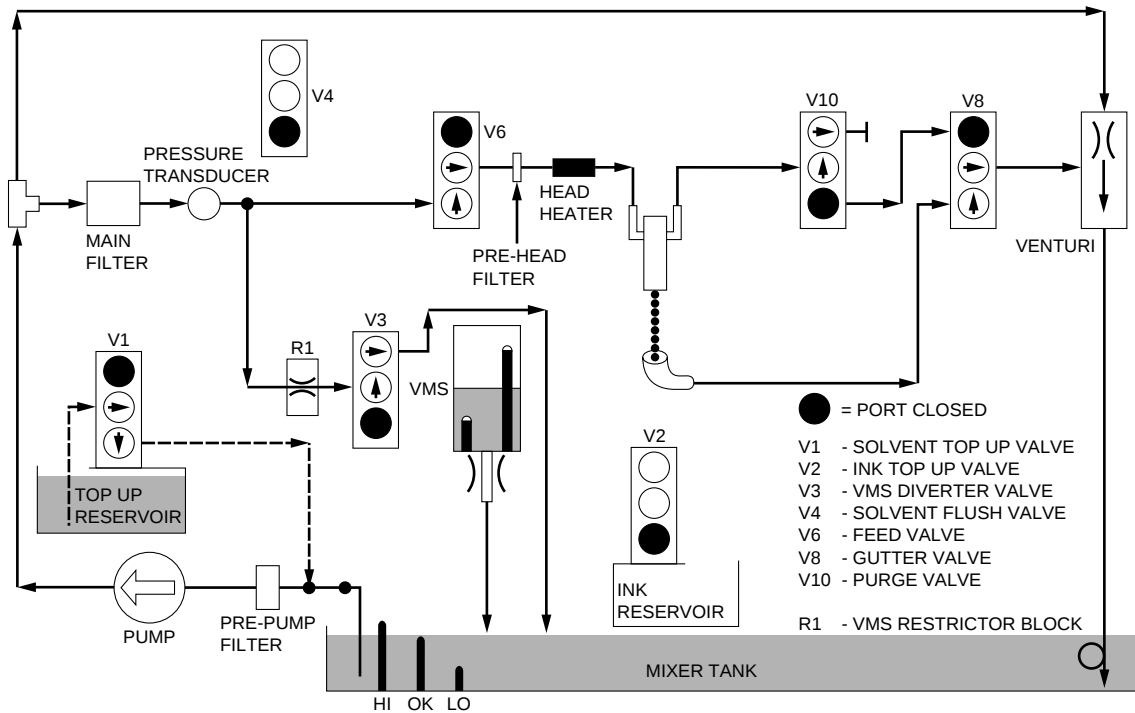

Fig 10.34 Top up addition to mixer tank
- 71** The time taken for the VMS chamber to empty is checked by the software against a reference value. The reference value is derived from a 'time to empty algorithm' stored in the CPU memory. It takes into account the type of ink in the machine (entered by the operator during calibration) and the ink temperature as measured by the sensor in the mixer tank. If the actual time to empty is greater than the reference value, the viscosity of the ink is too high. Solvent top up valve V1 is energised for up to 5 seconds every 2nd VMS sequence until the viscosity is corrected (Fig 10.34).